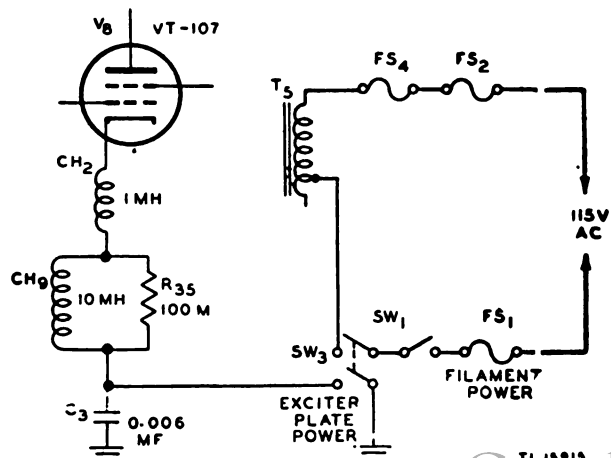

Figure 67. EXCITER PLATE POWER switch—functional diagram.
b. **EXCITER PLATE POWER SWITCH SW_3** (fig. 67). **EXCITER PLATE POWER** switch SW_3 is located on the front panel of the transmitter. When set to ON, one pair of contacts applies a-c power to the primary winding of transformer T_5 , and another pair of contacts grounds the cathode circuit of oscillator tube V_8 . This switch is used to apply plate power to the exciter stages during tune-up operations.